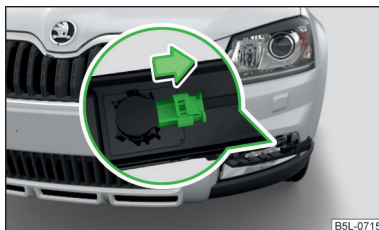

Fig. 199
- Pull the plug on the grille gently in the direction of the arrow » Fig. 199.
- Attach the connector on guard carefully » Fig. 199 on page 241²⁾.